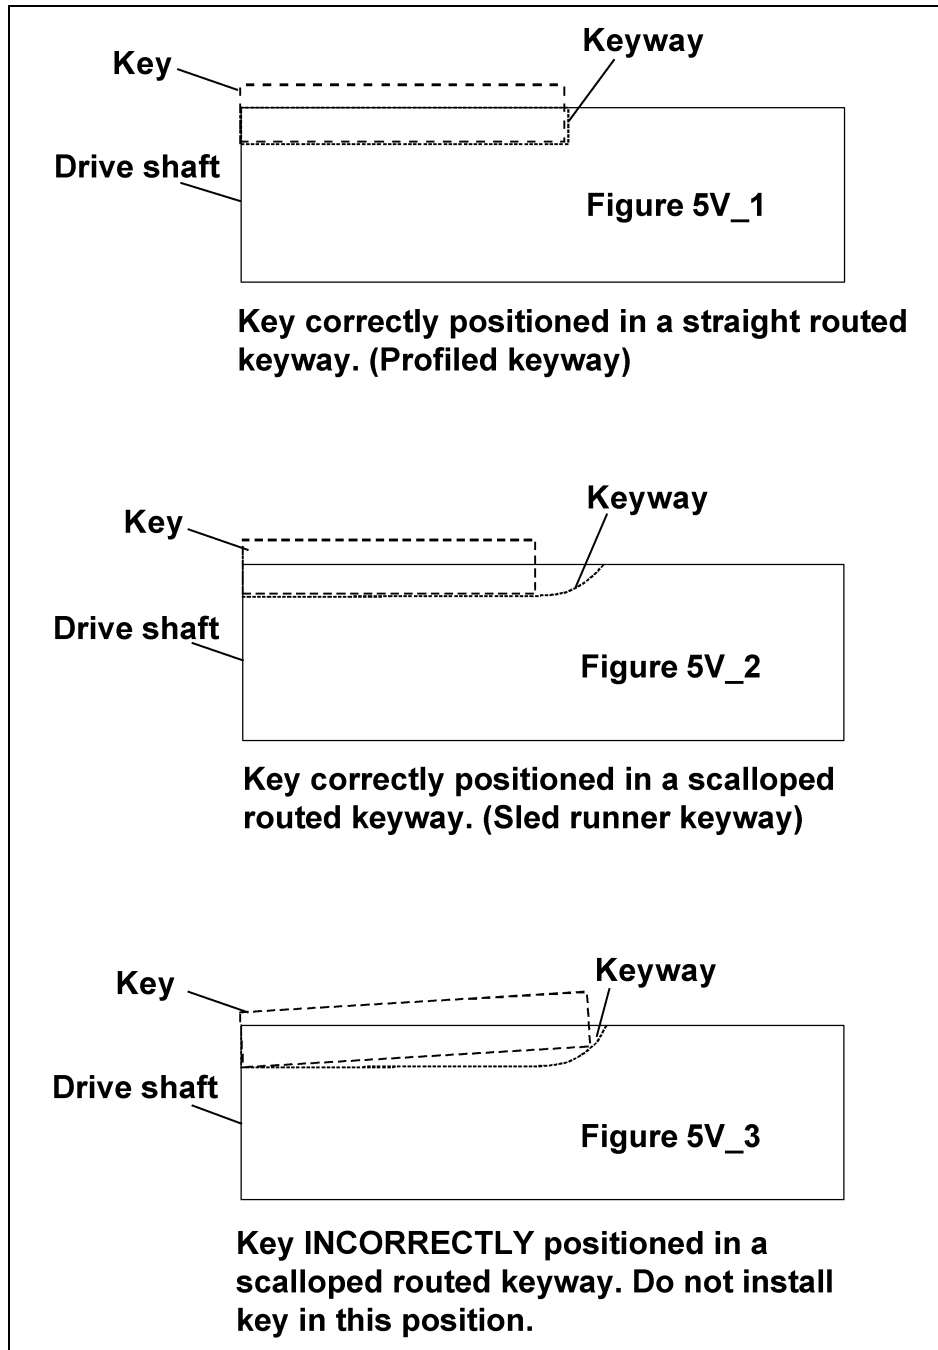

Figure 5V
- B. Make sure key is flat (parallel to drive shaft) in keyway as in Figure 5V_1 and Figure 5V_2. **NOT** like Figure 5V_3.